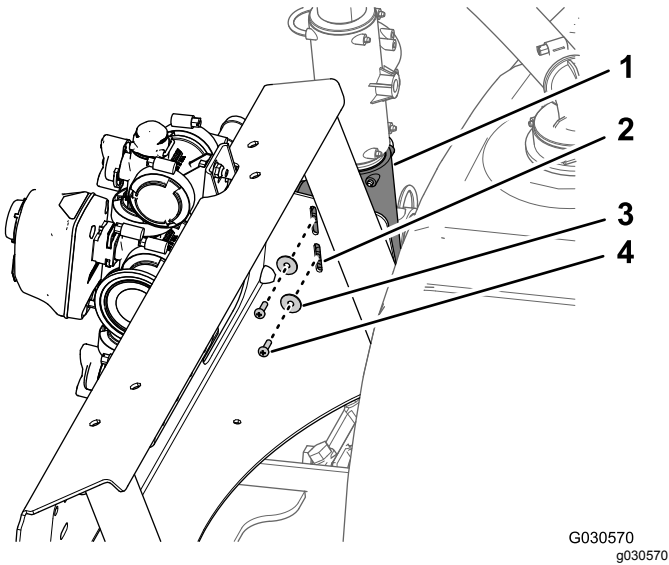

Figure 101
4. At the left side of the manifold mount, align the holes in the T-fitting with the slots in the manifold mount (Figure 101).
5. Secure the T-fitting to the manifold mount (Figure 101) with the 2 pan-head screws (#10 x 5/8 inch) and 2 washer (#10) that you removed in step 1 of 18 Removing the Manifold Mount for the 3-Boom Section System (page 43).